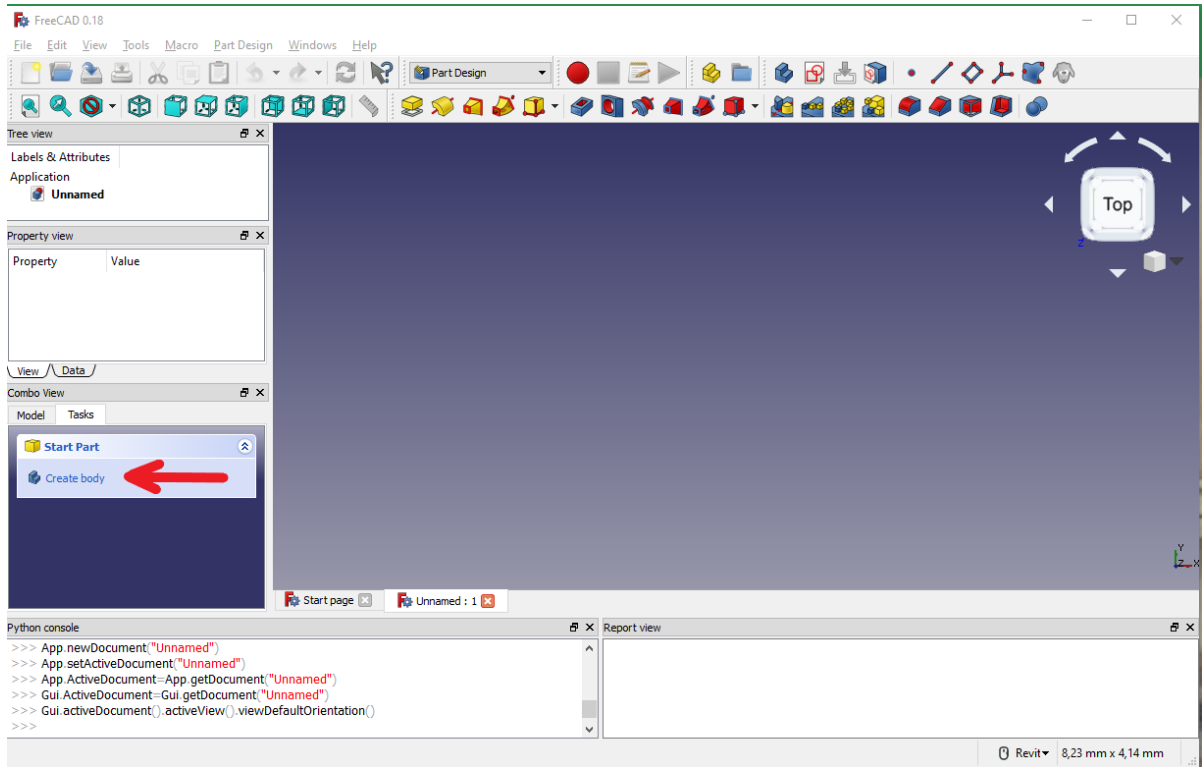
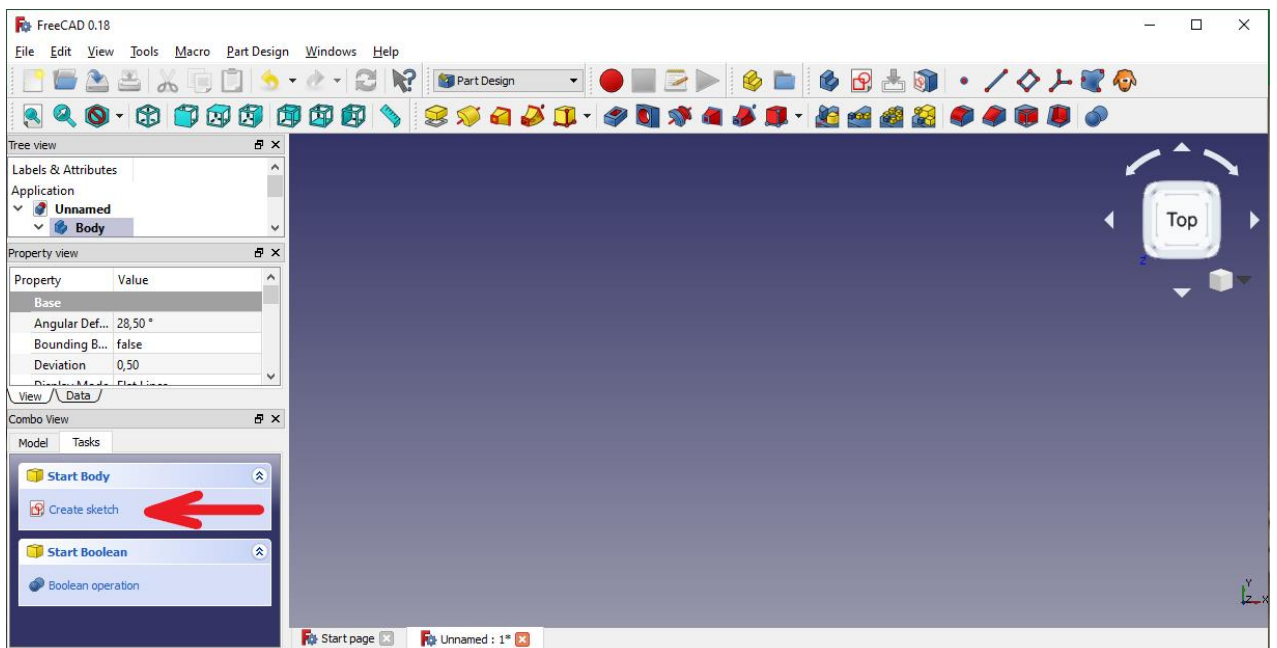

Figure 11 – Window with body creation
Figure 12 – Working with sketch creation
2. Make sure you are under the taskbar in Combo View. Click Create body and then Create sketch. A new window will open for selecting the orientation of the sketch (Figure 11 and Figure 12).